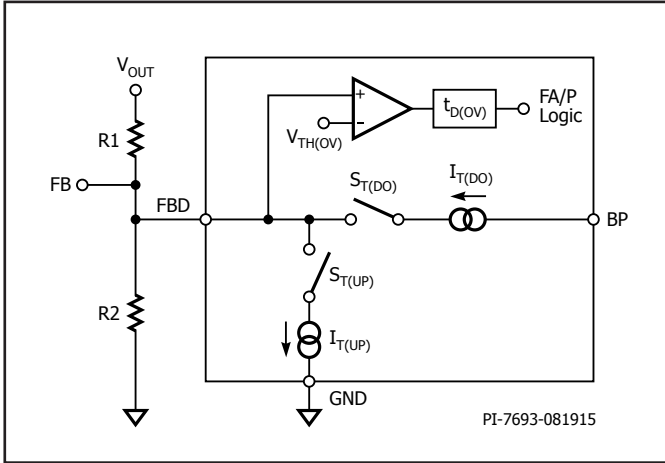

Figure 6. CHY103 FEEDBACK Pin Drive Output and Overvoltage Monitor Input.
CHY103 sets the respective output power supply voltage regulation point by directly driving the reference input of the power supply control loop error amplifier through an internal current sink I\_T(UP) and source I\_T(DO) (see Figure 6).
CHY103 monitors the voltage present at the FEEDBACK DRIVE pin in order to prevent excessive output voltage levels in case the power supply control loop lost regulation. The OV comparator threshold  $V_{TH(OV)}$  (see Figure 6) is adapted to the set output voltage level (5 V, 9 V, 12 V, or 20 V) outside Quick Charge 3.0 continuous mode. As soon as the output voltage reaches 120% of the set output voltage CHY103 activates the protection mode if the OV fault is present for at least 50  $\mu$ s. Adaptive OVP is blanked for 500 ms when set output voltage is stepped down outside of continuous mode (for instance from 9 V to 5 V).